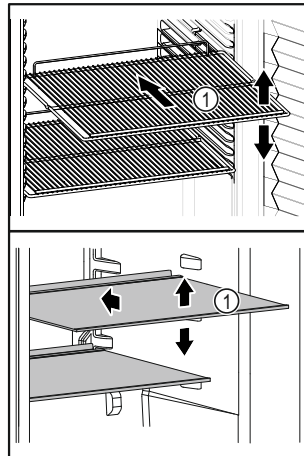

Fig. 5 Example illustration
- ❑ If storage surfaces Fig. 5 (1) are movable, adjust them according to height.
- ❑ Ventilation slots (2) for recirculation fan in the interior must be kept clear.